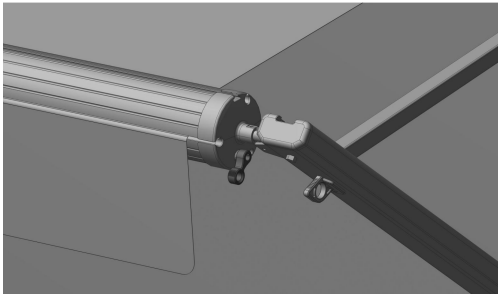

Figure D16
4.2.5 Hold the loop belt and gently push the ratchet lever on the end cover of the roller in the direction of the arrow with your hand, switching the direction of the pawl to "off". (Figure D16)